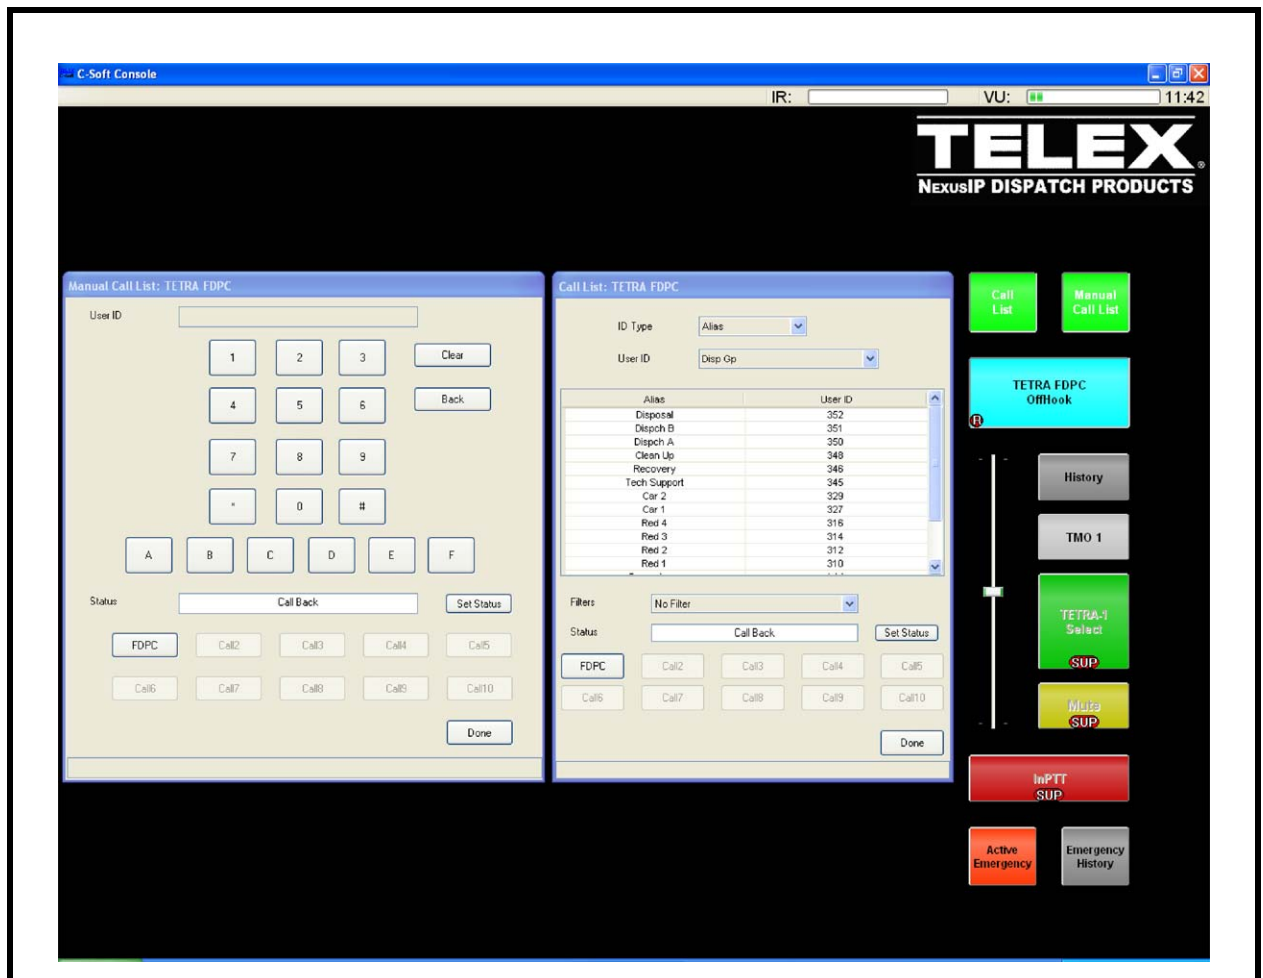

FIGURE 28. C-Soft Dispatch Console—Call List Operation
Figure 28 illustrates an example dispatch console. The Manual Call List and Call List are shown for completeness.
**NOTE:** The FDPC (phone) line takes precedence over the radio line, so even if the TETRA Radio line was selected, the FDPC function seizes control of the Call List, presents the FDPC button, and places the TETRA Radio line under supervision (disabled), see Figure 28.